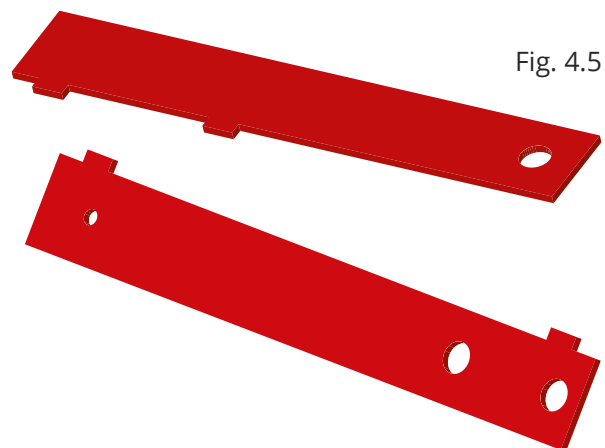

Fig. 4.5
- Makes the tabs in different places if left-hand and right-hand parts are almost identical. This prevents the parts from being incorrectly placed. (Fig. 4.5)